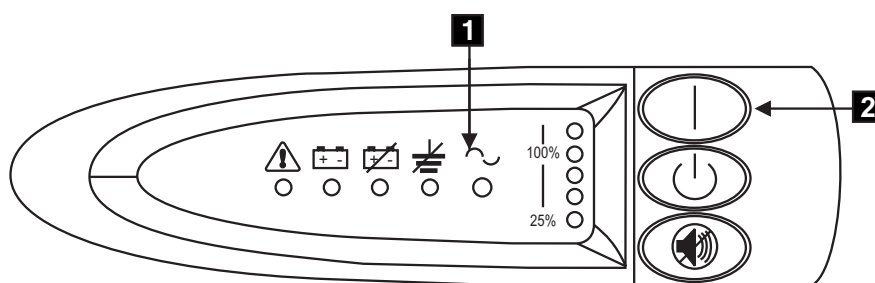

Figure 24. Power switch and indicators of the uninterruptible power supply
12. All front panel indicators of the uninterruptible power supply flash for a short time while the uninterruptible power supply runs a self test. When the test is complete, the mode indicator **1** flashes to show that the uninterruptible power supply is in standby mode (see Figure 24).